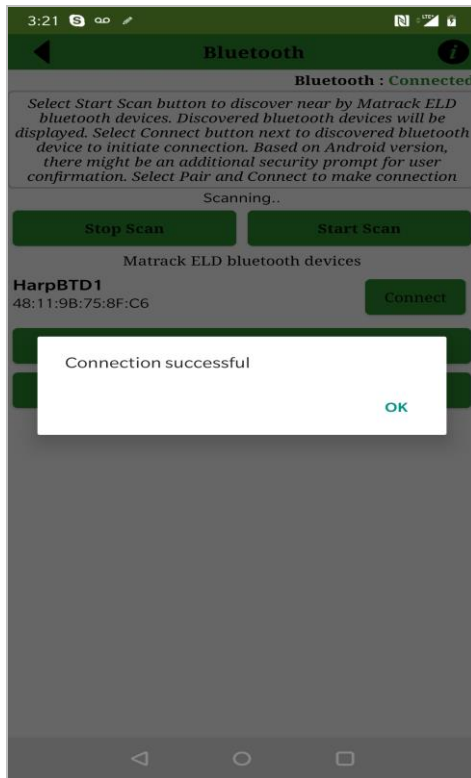

Figure 8.3 – Connection successful alert
- On successful connection, a successful message will be displayed (figure 8.3).